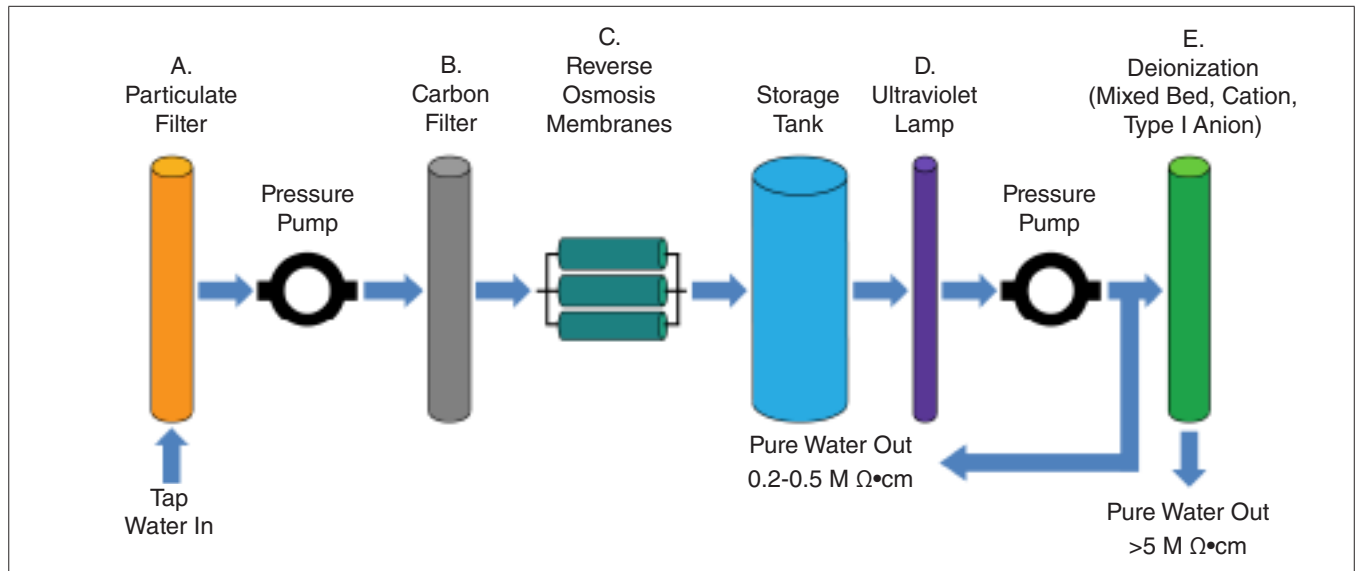

Figure 6.3a: Reverse osmosis / deionized water system.
The reverse osmosis / deionized (RO/DI) water system shown in Figure 6.3a produces water pure enough for spray systems. **This type of RO/DI system is required for Xe-1-SE, Xe-1-SCE and Xe-1-WE testers.**
- Figure 6.3a below shows an effective Reverse Osmosis / Deionized Water System with Anion Type I Resin for spray water silica removal.